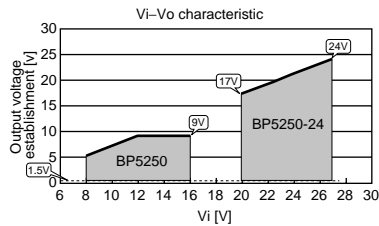

Fig.8
- Output voltage range is limited by input voltage. Please refer to the Fig.8.
Output voltage establishment range is changed by input voltage. Please refer to the Fig.8.
- (1) Output voltage establishment range is changed by input voltage. Please refer to the Fig.8.
- (2) Layout of external parts may significantly change the output spike noise or characteristics or cause abnormal oscillation and temperature increase. Note the following for layout.
- (3) Output load may cause large ripple current in the I/O smoothing electrolytic capacitor. Note the allowable ripple current of the capacitor to be used.
- (4) As the output smoothing electrolytic capacitor, one with especially low impedance is recommended for suppressing output ripple voltage. Select a capacitor suited for the use.
- (5) Please be sure to use protection circuit function. (R1 should not be 0Ω.)